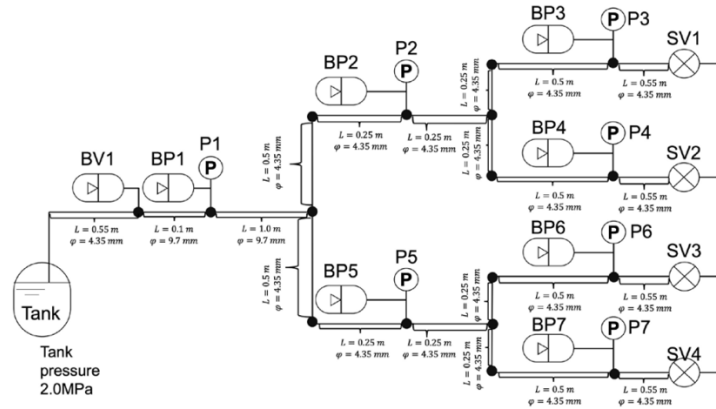

Figure 1: Schematic of experimental propulsion system.
- Figure 1 shows an experimental propulsion system. The working fluid is water pressurized to 2 MPa and discharged through four solenoid valves (SV1 - SV4) simulating thrusters.
- ☐ There are eight possible locations, BV1 and BP1 to BP7 as shown in Fig.1.
- ☐ In each CSV file, the first column is time, and the remaining columns are pressure at the measurement points P1 – P7 as shown in Fig. 1.